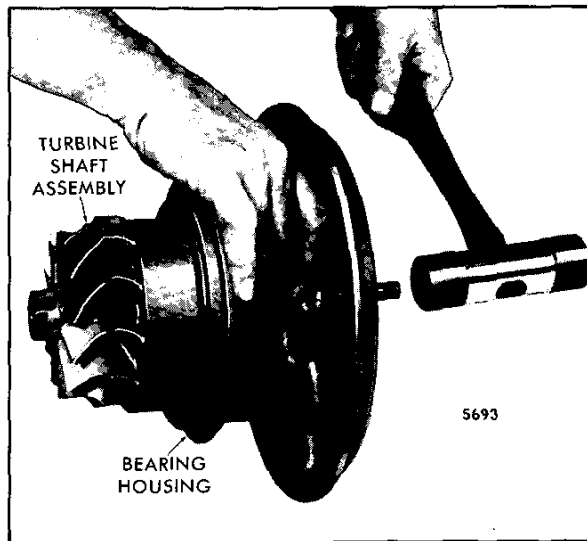

Fig. 8 - Tapping Turbine Shaft Assembly from Bearing Housing
10. Tap the turbine shaft assembly gently with a plastic faced mallet to release it from the bearing housing (Fig. 8).